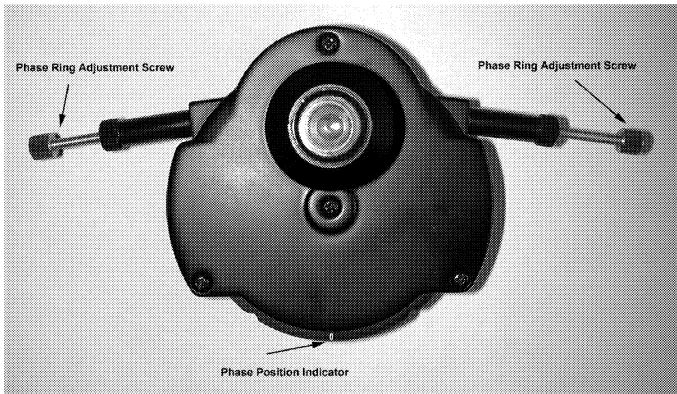
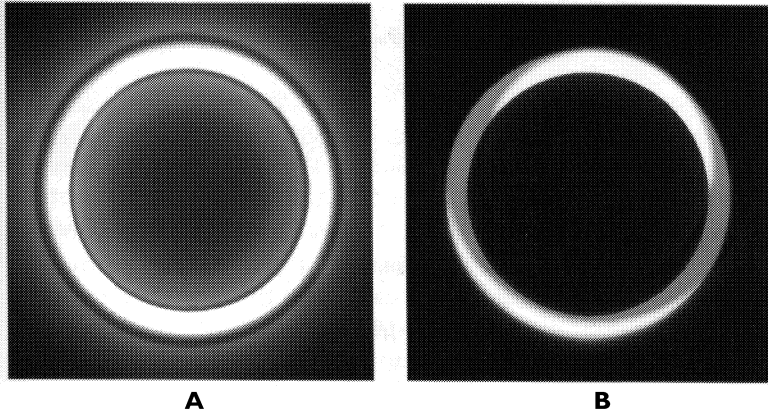

Figure 2
Figure 3
Phase contrast is a technique used to amplify contrast in unstained samples. To be able to see objects with phase contrast the optional phase kit is required. This includes a phase turret condenser (see figure 2), phase objectives, a centering telescope and a green filter. Firstly the standard condenser must be removed by loosening the retaining screw and the phase turret condenser installed in its place. Swap the standard objectives (if you have them) for phase contrast objectives, these are engraved PH, and select the correct condenser position (0 for brightfield, 10 for the 10x objective, 20 for the 20x objective etc.) Follow the steps in section 7 to ensure that Köhler illumination is set up properly. Remove an eyepiece and insert the centering telescope, this allows you to focus on the phase rings and make adjustments to their alignment. The two rings, one bright, one dark should overlap perfectly (A), if not (B) then their position relative to one another should be adjusted using the centration screws at the rear of the condenser (Figure 3).